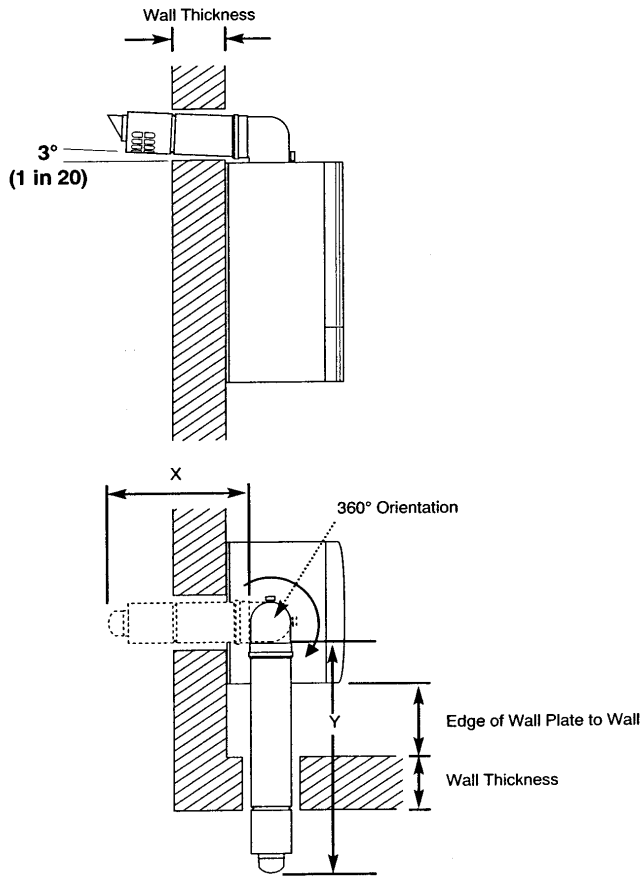

Fig. 26
2. **For rear exit** - measure the wall thickness (Fig. 26) and to this dimension add 245mm. This dimension to be known as (X).
4. **For left hand exit** - measure the distance from the edge of the wall plate to the inner face of the wall (Fig. 26) and to this dimension add the wall thickness + 275mm. This dimension to be known as (Y).